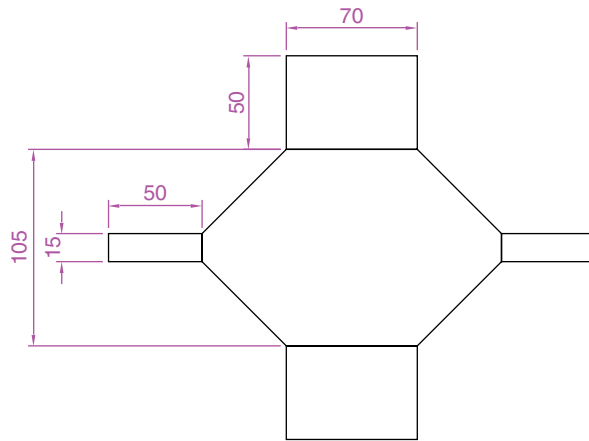

Fig. 3.39 Exercise 8
8. Fig. 3.39 was constructed using only the **Rectangle** tool. Make an exact copy of the drawing using only the **Rectangle** tool.